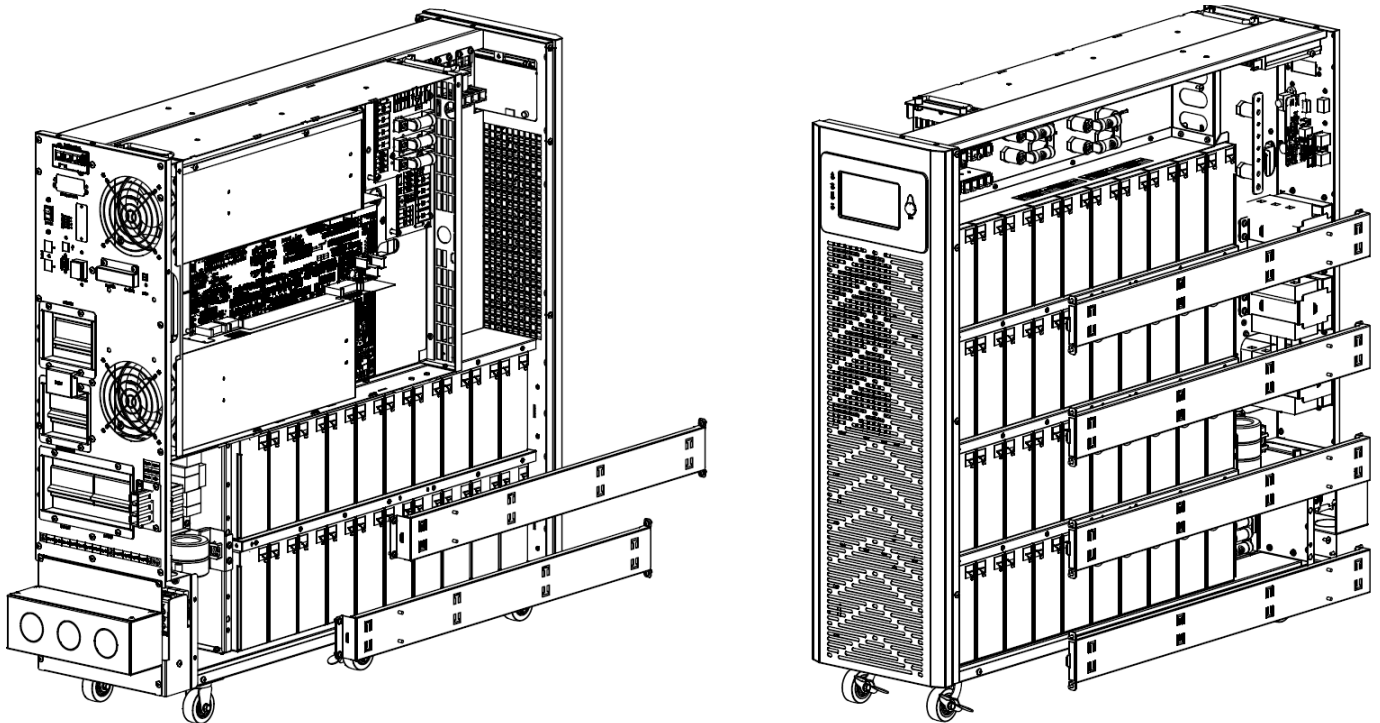

Figure 3-12: Reattach Battery Bracket Bars
7. Reattach the six battery bracket bars removed in step 3 (Figure 3-12).